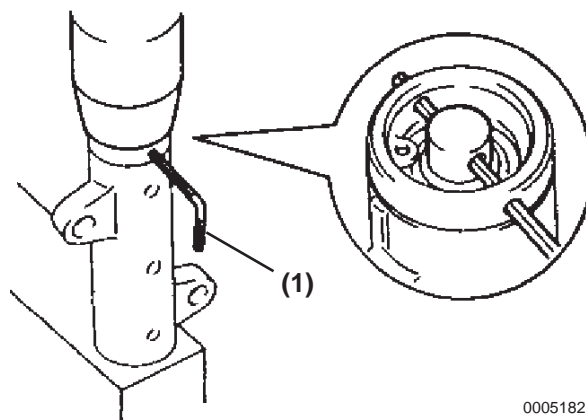

Figure 5-182
- Align the push rod to the hole in the housing and carry out positioning of the push rod by passing a 1.5 mm allen / hex wrench **(Figure 5-182, (1))** through the hole.